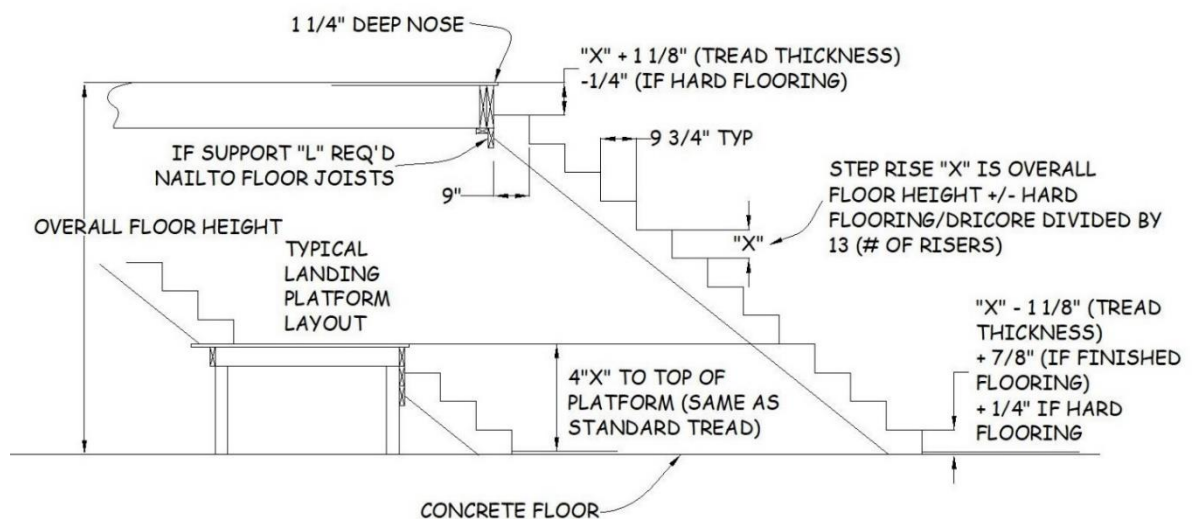

Figure 4-4. Stair Stringer Installation.
4. Reduce the height of the last riser at the bottom of the stringer by $1\frac{1}{8}$ " (the thickness of the tread), unless the basement floor is to be finished. If the basement floor is to be finished, reduce the height of the riser by only $\frac{1}{4}$ ". This will accommodate the $1\frac{1}{8}$ " thickness of the tread and the $\frac{7}{8}$ " thickness of the DRICore (see Figure 4-4).
12. Use the last calculation in Figure 4-2 (Top Step Rise) and measure that distance down from the underside of the deck. Make a line on the stairwell framing at this point. This line marks the location of the tops of the three stringers (Figure 4-4).
1. A landing, if required, is a "joist" box made of 2x6's covered with ¾" floor decking with floor joists installed on 16" centers (see Figure 4-4).